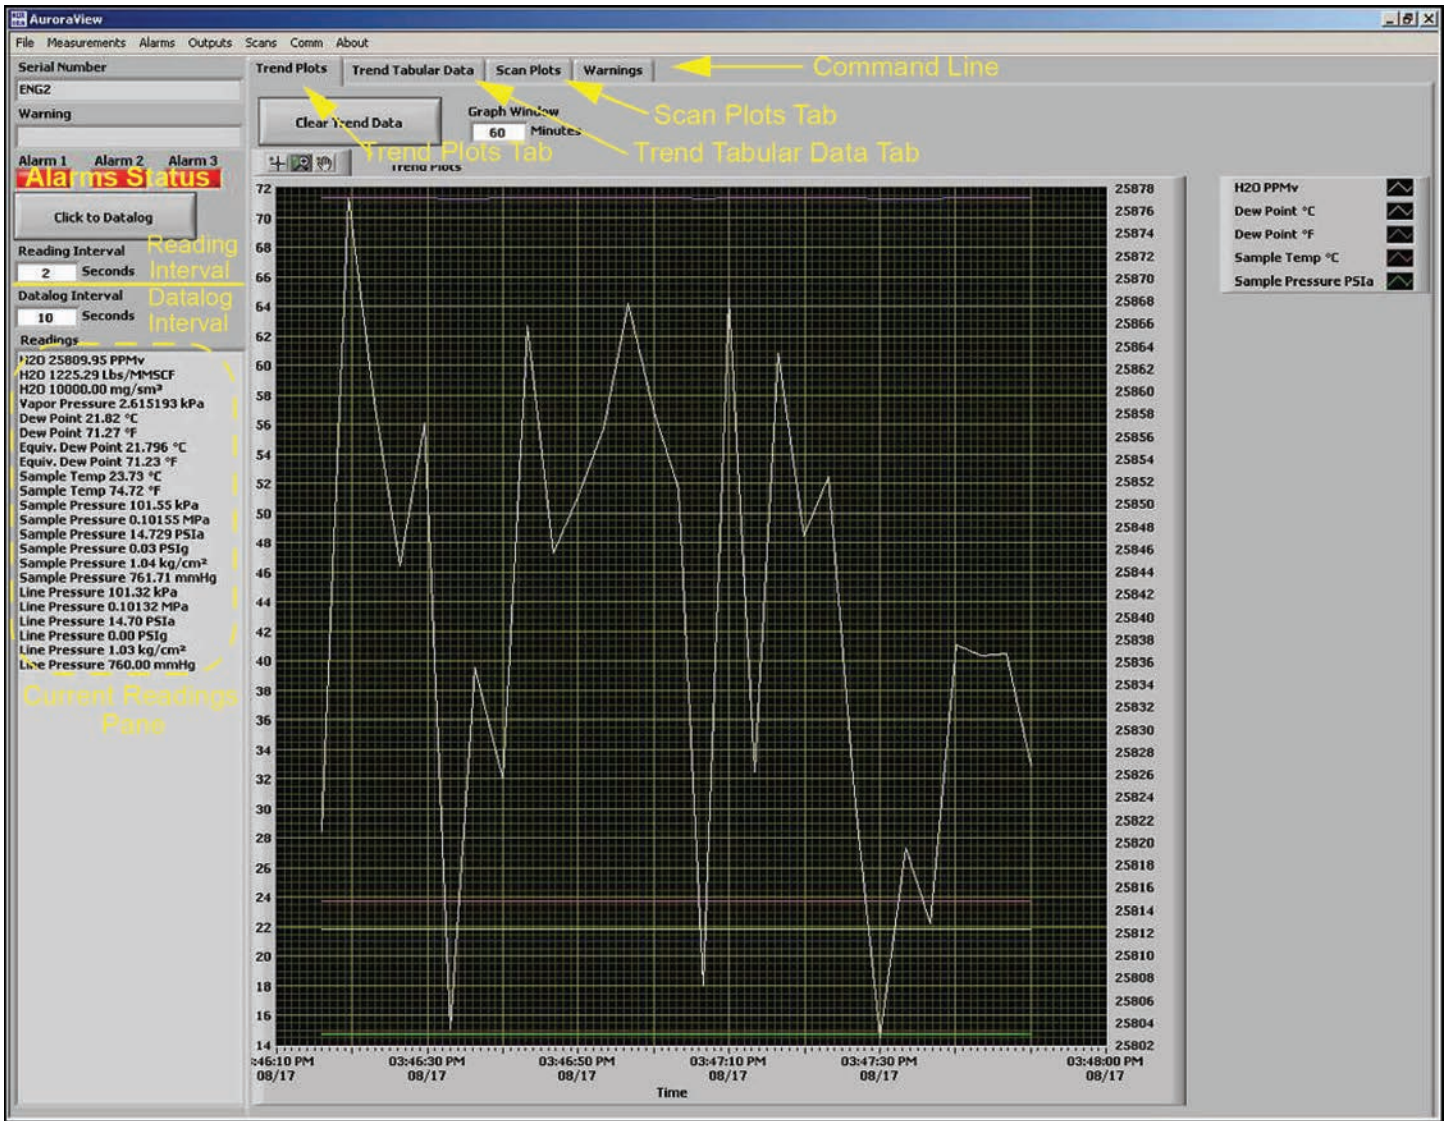

Figure 55: AuroraView main screen
2. AuroraView boots up and displays a screen similar to Figure 55 below.